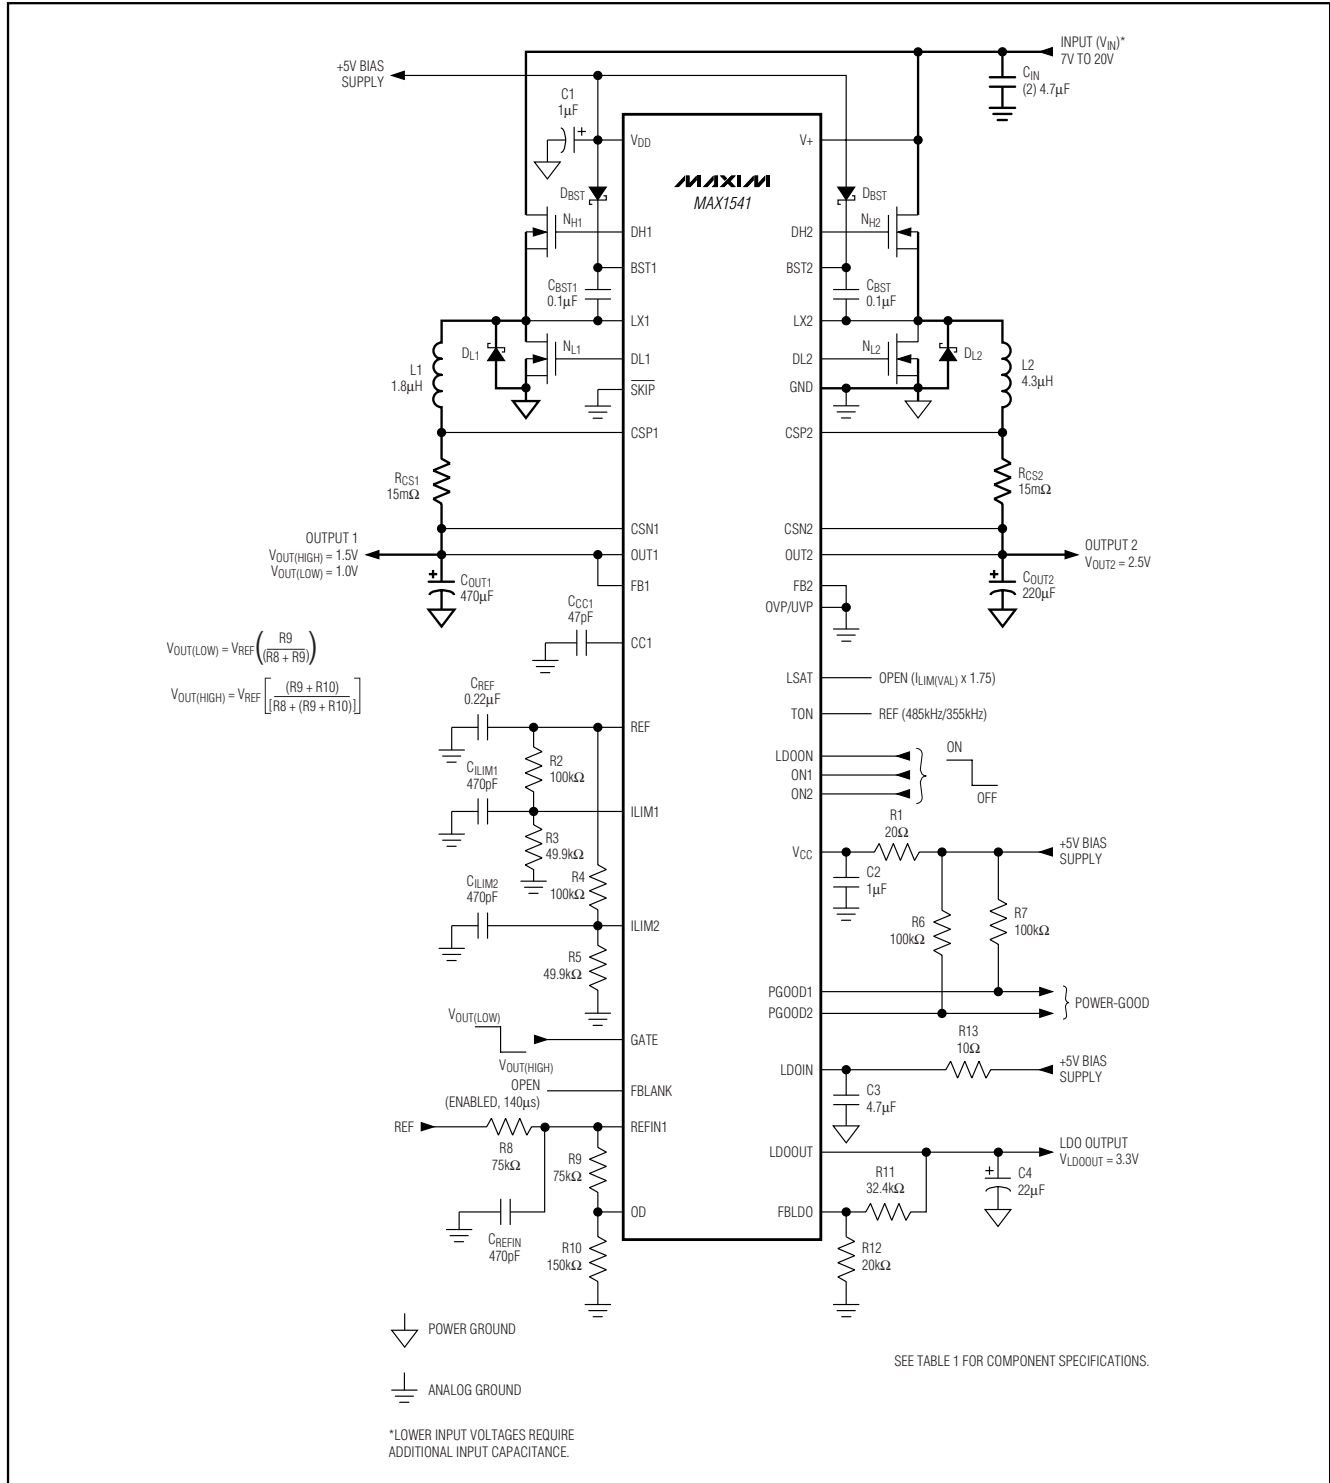

Figure 12. MAX1541 Standard Application Circuit
The MAX1541 regulates FB1 to the voltage set at REFIN1. By changing the voltage at REFIN1, the MAX1541 can be used in applications that require dynamic output-voltage changes between two set points. Figure 12 shows a dynamically adjustable resistive voltage-divider network at REFIN1. Using the GATE signal and open-drain output (OD), a resistor can be switched in and out of the REFIN1 resistor-divider, changing the voltage at REFIN1. A logic high on GATE turns on the internal N-channel MOSFET, forcing OD to a low-impedance state. A logic low on GATE disables the N-channel MOSFET, so OD is high impedance. The two output voltages ($FB1 = OUT1$) are determined by the following equations:
voltage during dynamic transitions. With the additional capacitance, the REFIN1 voltage slews between the two set points with a time constant given by $REQ \times C_{REFIN1}$, where REQ is the equivalent parallel resistance seen by the slew capacitor. Looking at Figure 12, the time constant for a positive REFIN1 voltage transition is:
For the MAX1541, the linear regulator supports Dual Mode operation to allow the selection of a 5V output voltage without requiring external components (Figure 1). Connect FBLDO to GND for a fixed 5.0V output. The linear regulator's output voltage can be adjusted from 1.25V to 5.5V using a resistive voltage-divider (Figure 12). The MAX1541 regulates FBLDO to a 1.25V feedback voltage. The adjusted output voltage is: